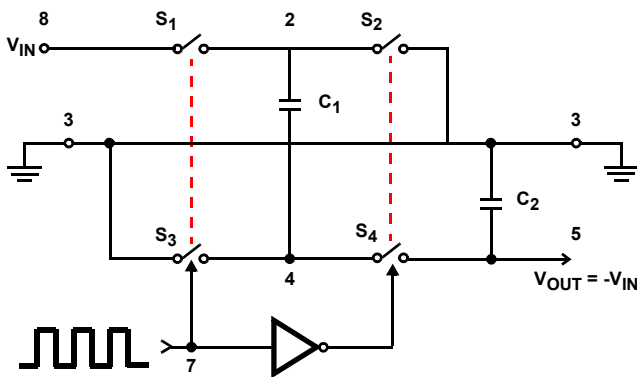
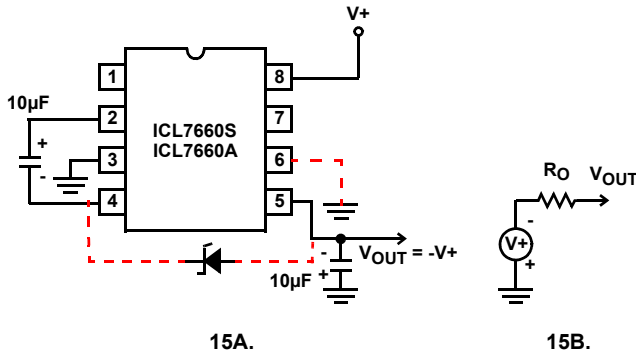
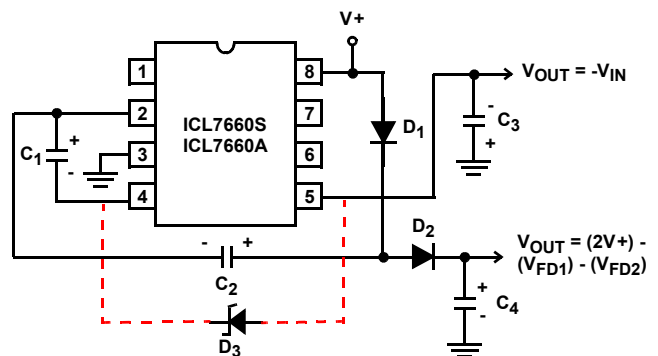

FIGURE 14. IDEALIZED NEGATIVE VOLTAGE CONVERTER
FIGURE 15. SIMPLE NEGATIVE CONVERTER AND ITS OUTPUT EQUIVALENT
FIGURE 19. COMBINED NEGATIVE VOLTAGE CONVERTER AND POSITIVE DOUBLER
The ICL7660S and ICL7660A contain all the necessary circuitry to complete a negative voltage converter, with the exception of two external capacitors, which may be inexpensive 10 $\mu$ F polarized electrolytic types. The mode of operation of the device may best be understood by considering Figure 14, which shows an idealized negative voltage converter. Capacitor C1 is charged to a voltage, V+, for the half cycle, when switches S1 and S3 are closed. (Note: Switches S2 and S4 are open during this half cycle). During the second half cycle of operation, switches S2 and S4 are closed, with S1 and S3 open, thereby shifting capacitor C1 to C2 such that the voltage on C2 is exactly V+, assuming ideal switches and no load on C2. The ICL7660S and ICL7660A approach this ideal situation more closely than existing non-mechanical circuits.
In the ICL7660S and ICL7660A, the four switches of Figure 14 are MOS power switches; S1 is a P-Channel device; and S2, S3 and S4 are N-Channel devices. The main difficulty with this approach is that in integrating the switches, the substrates of S3 and S4 must always remain reverse biased with respect to their sources, but not so much as to degrade their “ON” resistances. In addition, at circuit start-up, and under output short circuit conditions (VOUT = V+), the output voltage must be sensed and the substrate bias adjusted accordingly. Failure to accomplish this would result in high power losses and probable device latch-up.
where V1 and V2 are the voltages on C1 during the pump and transfer cycles. If the impedances of C1 and C2 are relatively high at the pump frequency (see Figure 14) compared to the value of RL, there will be a substantial difference in the voltages, V1 and V2. Therefore it is not only desirable to make C2 as large as possible to eliminate output voltage ripple, but also to employ a correspondingly large value for C1 in order to achieve maximum efficiency of operation.
The majority of applications will undoubtedly utilize the ICL7660S and ICL7660A for generation of negative supply voltages. Figure 15 shows typical connections to provide a negative supply where a positive supply of +1.5V to +12V is available. Keep in mind that pin 6 (LV) is tied to the supply negative (GND) for supply voltage below 3.5V.
The output characteristics of the circuit in Figure 15 can be approximated by an ideal voltage source in series with a resistance as shown in Figure 15B. The voltage source has a value of  $-(V_+)$ . The output impedance ( $R_O$ ) is a function of the ON resistance of the internal MOS switches (shown in Figure 14), the switching frequency, the value of  $C_1$  and  $C_2$ , and the ESR (equivalent series resistance) of  $C_1$  and  $C_2$ . A good first order approximation for  $R_O$  is shown in Equation 2:
Figure 19 combines the functions shown in Figure 15 and Figure 18 to provide negative voltage conversion and positive voltage doubling simultaneously. This approach would be suitable, for example, for generating +9V and -5V from an existing +5V supply. In this instance, capacitors  $C_1$  and  $C_3$  perform the pump and reservoir functions, respectively, for negative voltage generation, while capacitors  $C_2$  and  $C_4$  are pump and reservoir, respectively, for the doubled positive voltage. There is a penalty in this configuration which combines both functions, however, in that the source impedances of the generated supplies will be somewhat higher, due to the finite impedance of the common charge pump driver at pin 2 of the device.
resistor to the LV pin ensures start-up. Because the switches share the load in parallel, the output impedance is much lower than in the standard circuits, and higher currents can be drawn from the device. By using this circuit, and then the circuit of Figure 15, +15V can be converted, via +7.5 and -7.5, to a nominal -15V, although with rather high series output resistance (~250Ω).